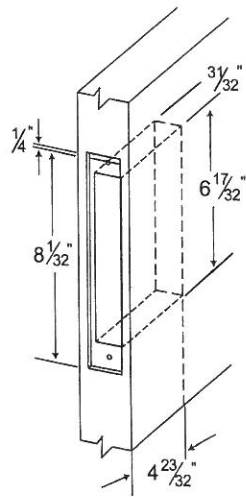

Figure 1-1
1. If door is already cut out for lock, check for proper clearance. (See Figure 1-1.)